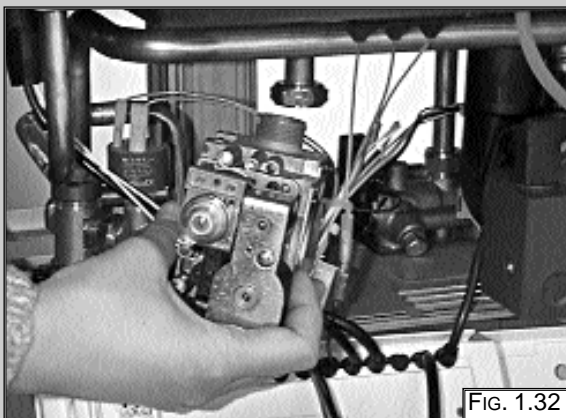

FIG. 1.32
5. Remove the gas valve (FIG. 1.32).